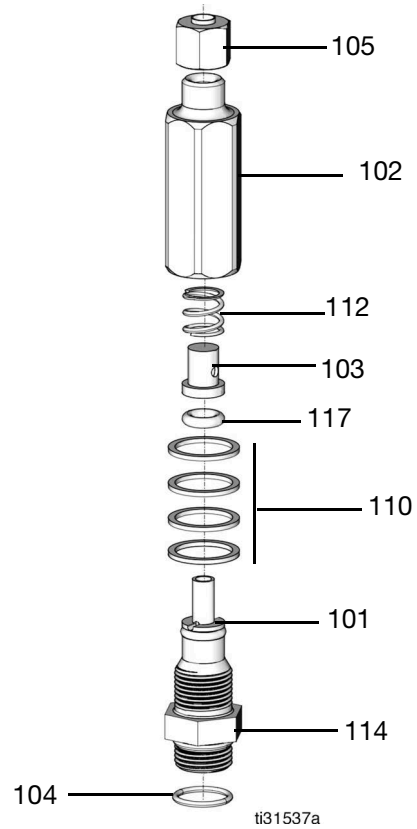

FIG. 37
Grease injectors are used to provide precise lubrication to each grease point in the system. If an injector is not producing the correct amount of lubricant for a specific location on the vehicle or if a replacement injector of correct size is not available, output spacer washers (110) can be installed to adjust the injector's output volume (FIG. 37, page 46).
- Use a 5/8 inch wrench to loosen and separate the injector body (102) from the valve assembly (114). Be careful not to misplace or damage the spring (112), retainer cap (103) and o-ring (117) (FIG. 37, page 46).
- Add spacers (110) to increase output volume.
- Remove spacers (110) to decrease output volume.
- Reassemble injector valve assembly. Be sure all parts removed during disassembly are reinstalled in the correct order as shown in FIG. 37 (page 46). Use a 5/8" wrench to tighten using only enough force to seat output spacers firmly (110). Torque to 8 ft-lb +/- 2 (10.8 +/- 2.7 N•m).
- Install injector (101) onto manifold (119/120). Slide a deep well socket over the injector and aligned with the hex nut flats (114) (FIG. 37, page 46). Torque to 8 ft-lb +/- 2 (10.8 +/- 2.7 N•m).